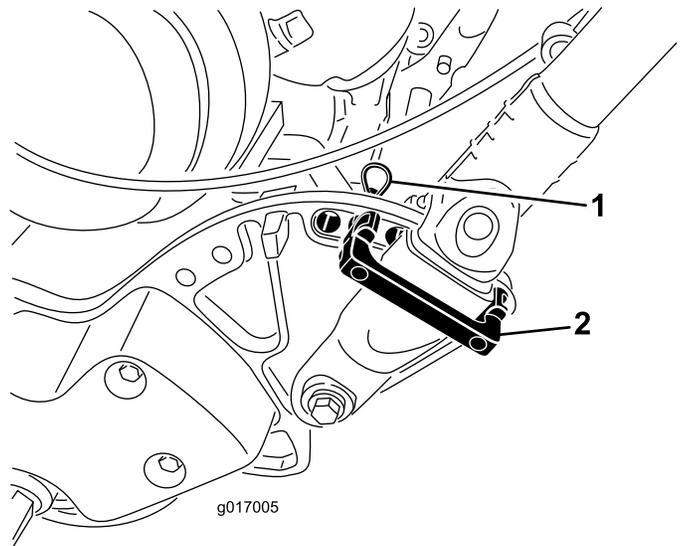

Figure 8
1. While supporting the handle, remove the cable ties that secure the handle clamps to the side plates (Figure 8).
2. Pivot the handle to the desired operating position and insert a handle retainer over the handle clamp and into the matching holes in the side plate (Figure 8).
3. Secure the clamp in position with a hairpin cotter (Figure 8).